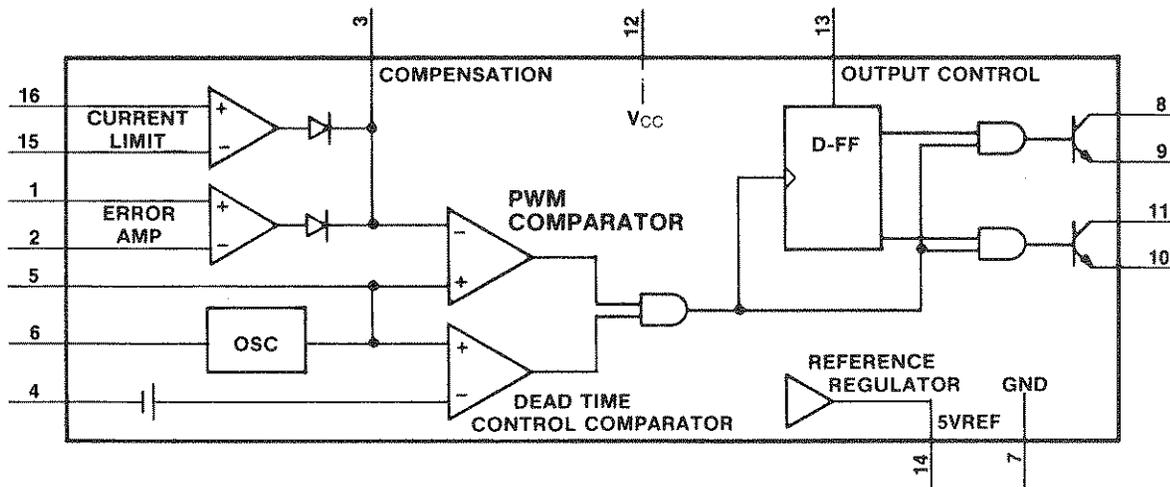

Figure 12A-2. Functional Block Diagram of a PWM
**12A-12. PWM OVERVIEW** (figure 12A-2). A pulse width modulator (PWM) requires four signals for proper modulation: a reference voltage, a feedback from the output to compare with the reference voltage for error detection, feedback current from the output for output current limiting, and a predetermined switching frequency.